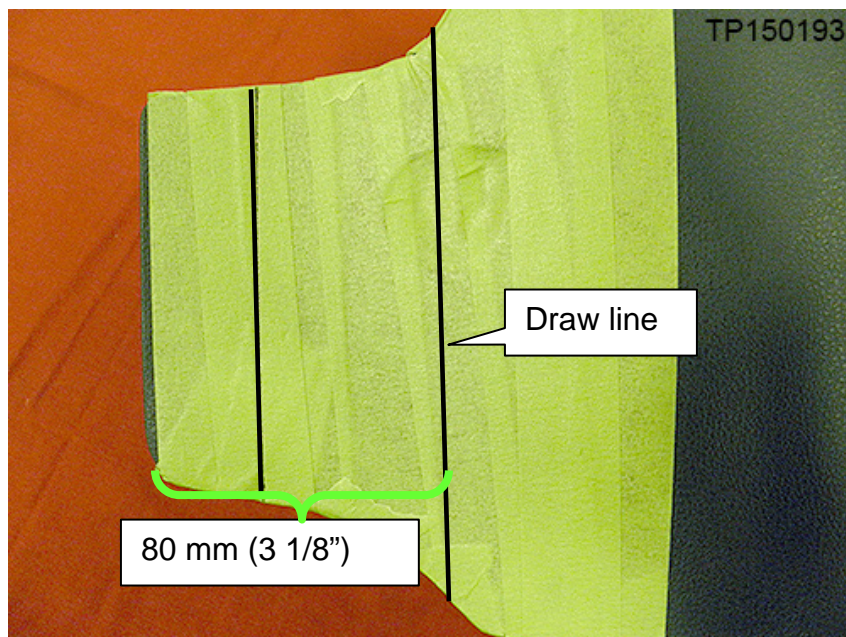

Figure 9
10. Measure 80 mm (approximately 3 1/8 inches) from driver's side leading edge of the Center Console Lower and then draw a line parallel to the same leading edge (Figure 9).